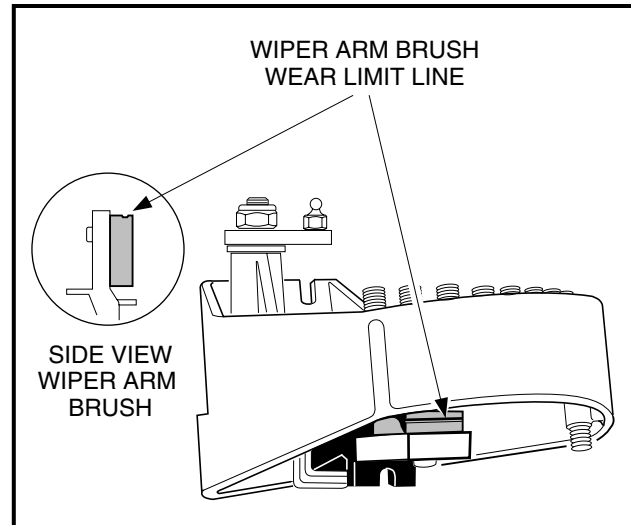

Figure 11-22 Wiper Arm Brush Wear Limit Line
2. Inspect both the brush and fixed contacts for excessive pitting, burns, or wear. If the brush is worn to the wear limit line it must be replaced (**Figure 11-22, Page 11-17**). See Section 12 – Electrical Components.